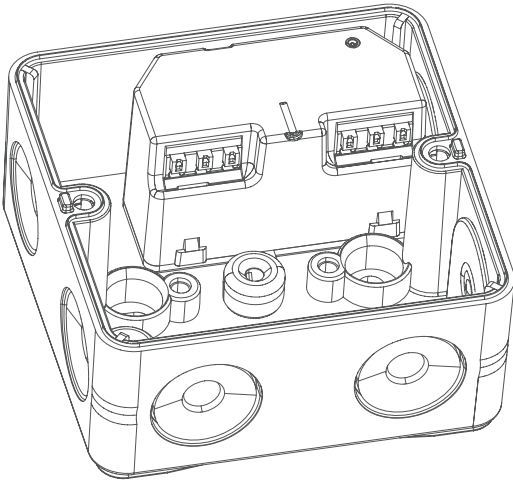

Figure 3
- Connecting terminal 2 (C): "Up"
- Connecting terminal 1 (D): "Down"
- Connect the phase conductor to connecting terminal L (E)
- Connect the neutral conductor to connecting terminal N (F)
- Connecting terminal S1 (G): "Down"
- Connecting terminal S2 (H): "Up"
- Fix the actuator to an appropriate surface-mounting box (e.g. Abox 025 or Abox 040) (see figure 3)